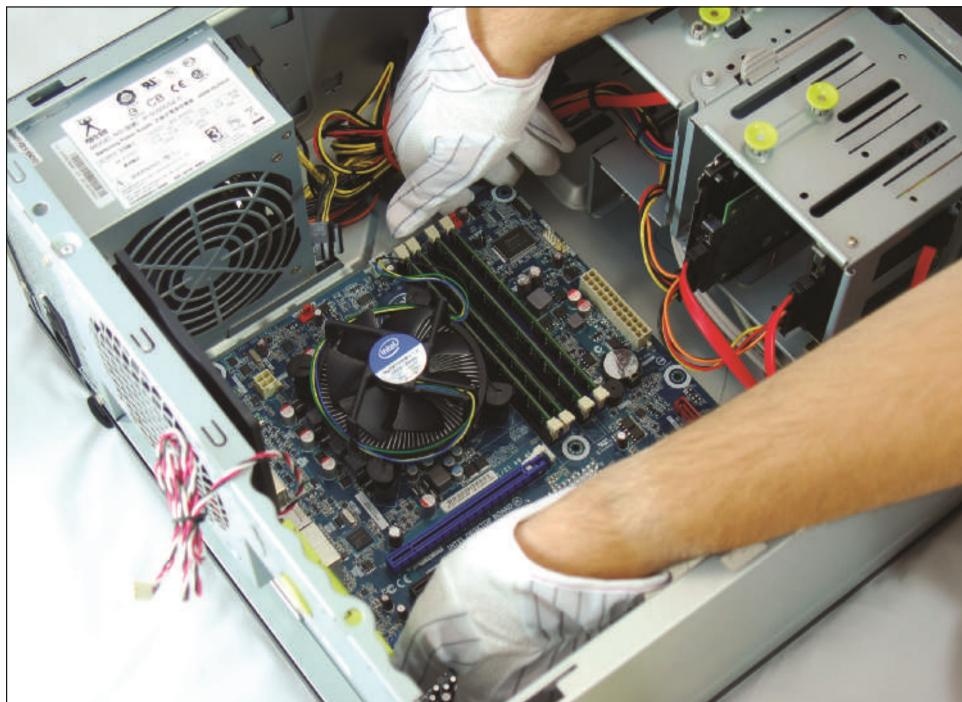

Figure 2-15 Remove the motherboard from the case
6. The motherboard should now be free and you can carefully remove it from the case, as shown in Figure 2-15. Lift the board by its edges, as shown in the figure.